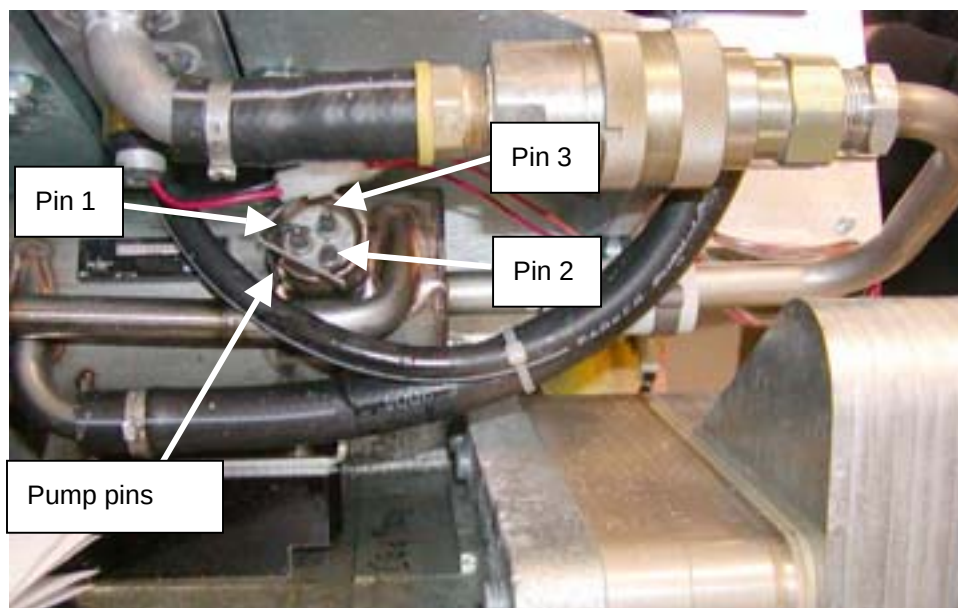

Figure 5 Pump Power Connector Pins
9. Check the pump resistances by measuring the resistance between pump connector pins per Table 1. Replace the pump if any of the resistances fail to meet the specification. (Refer to Figure 5 for pump connector pin locations)